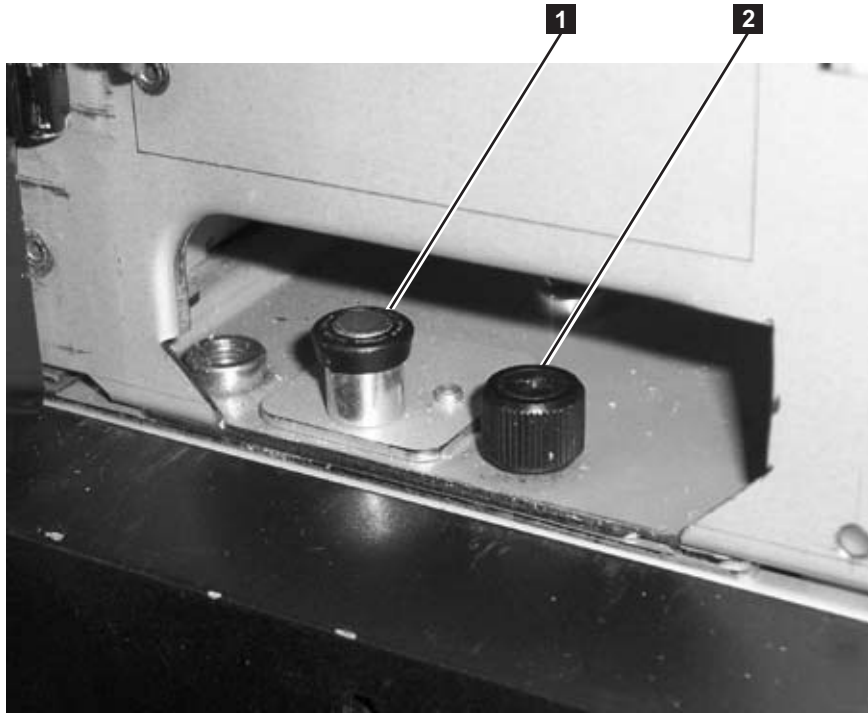

Figure 4-24. Module-to-Module alignment pin and front thumb screw
8. Twist the upper module alignment pin (**1** in Figure 4-24 on page 4-21) to unlock it from the up position.
10. Tighten the front thumb screw (**2** in Figure 4-24 on page 4-21) and the thumb screw behind the I/O Station door to secure the front of the upper module to the lower module.